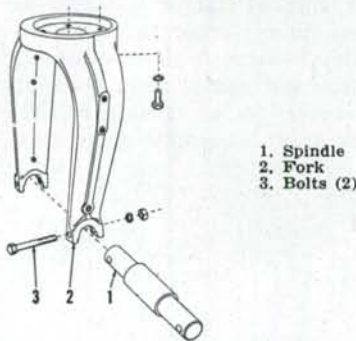

Fig. 1 — Exploded view of single front wheel fork and associated parts.
1. WHEEL ASSEMBLY. The single front wheel assembly may be removed after raising front of tractor and removing bolts (3—Fig. 1) at each end of front wheel spindle (1).
2. R&R SINGLE FRONT WHEEL FORK. Remove wheel assembly as outlined in paragraph 1. Then unbolt and remove fork (2—Fig. 1) from steering sector shaft (14—Fig. 14).